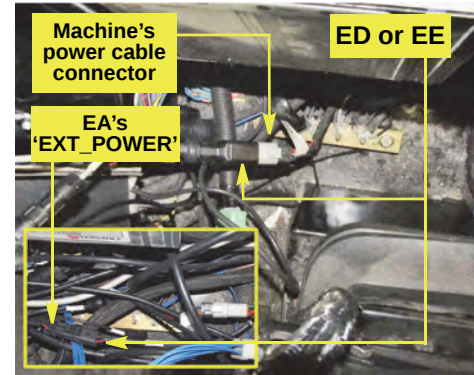

Figure 3b: Power connections
- b. Locate the machine's power cable connector in the right rear of the cab (Figure 3b, near the connections made in step 3a). Connect power cable **ED** (MAX) or **EE** (STX) to the machine's connector (Figure 3b).
Connect **ED's** or **EE's** branch cables to **EA's** branch cables labeled 'EXT_POWER' (Figure 3b inset), 'RMT_ENGAGE' and 'TERMINAL' (EE/STX only) or the Outback MAX power cable (not shown—see Appendix A or B).